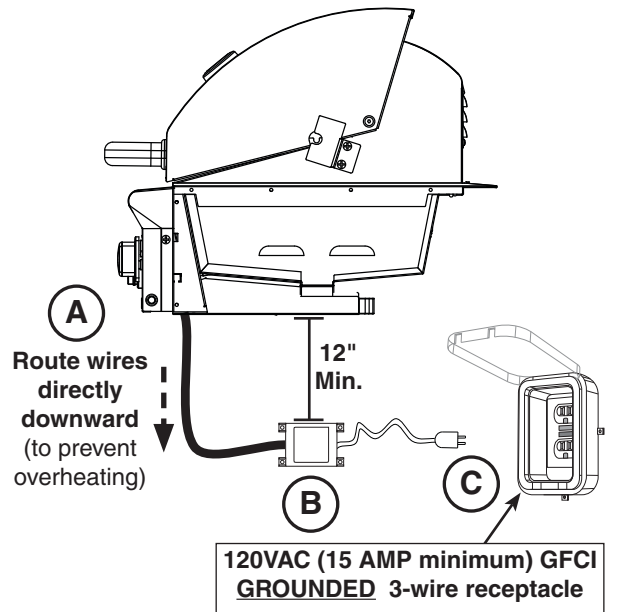

Fig. 23-1 Electrical installation
1. Route the wire harness extension below the control panel and directly downward. This will prevent overheating. **DO NOT** route the wire extension below the grill. See Fig. 23-1, A.
2. Mount the power supply box to the inside of the enclosure using appropriate hardware for your enclosure. It **MUST** be located at least 12 inches below the bottom of the unit. See Fig. 23-1, B.
3. Connect the cord coming from the power supply to a **120VAC (15 AMP minimum) GFCI GROUNDED 3-wire receptacle** (see Fig. 23-1, C). The GFCI receptacle must be a **WEATHER-PROOF IN-USE COVERED RECEPTACLE**.